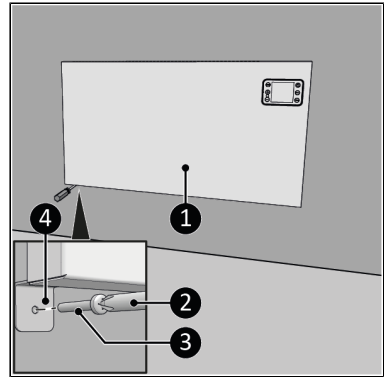

Figure 30.
14. Place the device (Figure 30, pos. 2) back on the wall brackets (Figure 30, pos. 1).
15. Screw and tighten the device brackets (Figure 30, pos. 4) with a large screw (Figure 30, pos. 3) to the wall using a Phillips screwdriver (Figure 30, pos. 2).